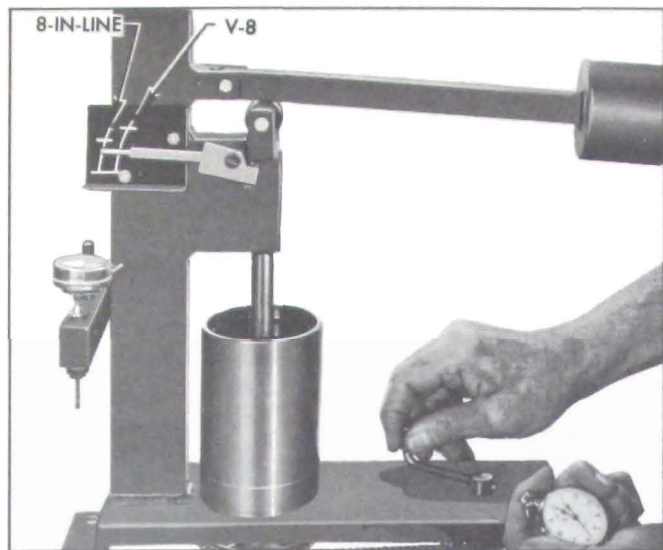

Figure 2-25—Checking Leakdown Rate
4. Lower the ram to rest in the lifter push rod seat, then lower the weight arm to rest on the roller of ram as shown in Figure 2-25.
6. Raise weight arm to allow the lifter plunger to come up to its retainer, then lower the arm to rest on the ram roller. As the pointer starts moving upward start rotating the fluid cup by turning the handle one revolution every two seconds. See Figure 2-25.
7. Use a stop watch to check the time required for the pointer to move from the lower to the upper mark on scale where marked "BUICK V-8." The cup must be rotated during this test. See Figure 2-25.